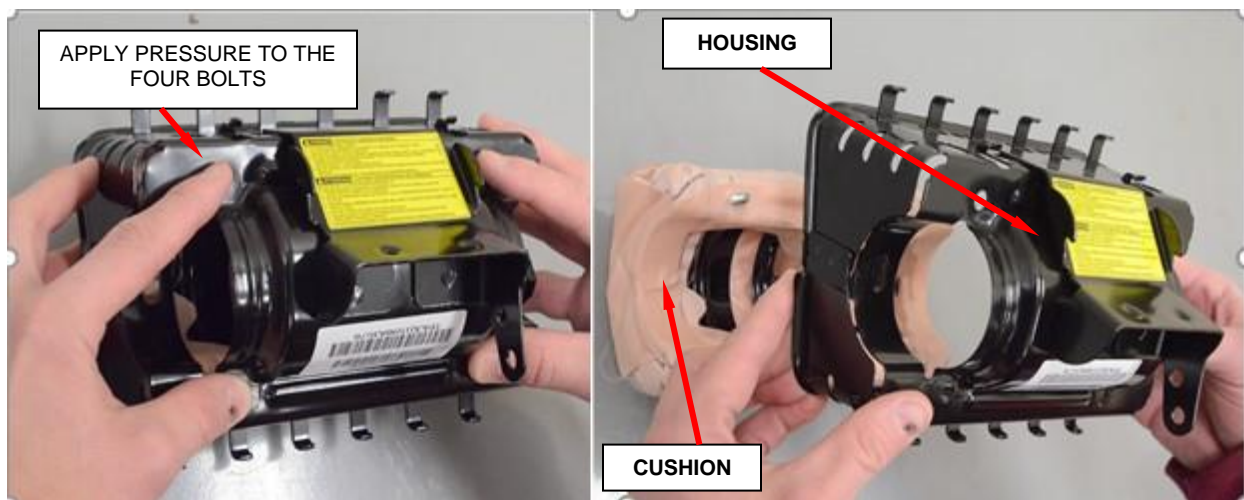

Figure 9 – Remove Airbag Cushion from Housing
- g. Remove airbag cushion from housing by applying pressure to the bolts, set cushion aside (Figure 9).